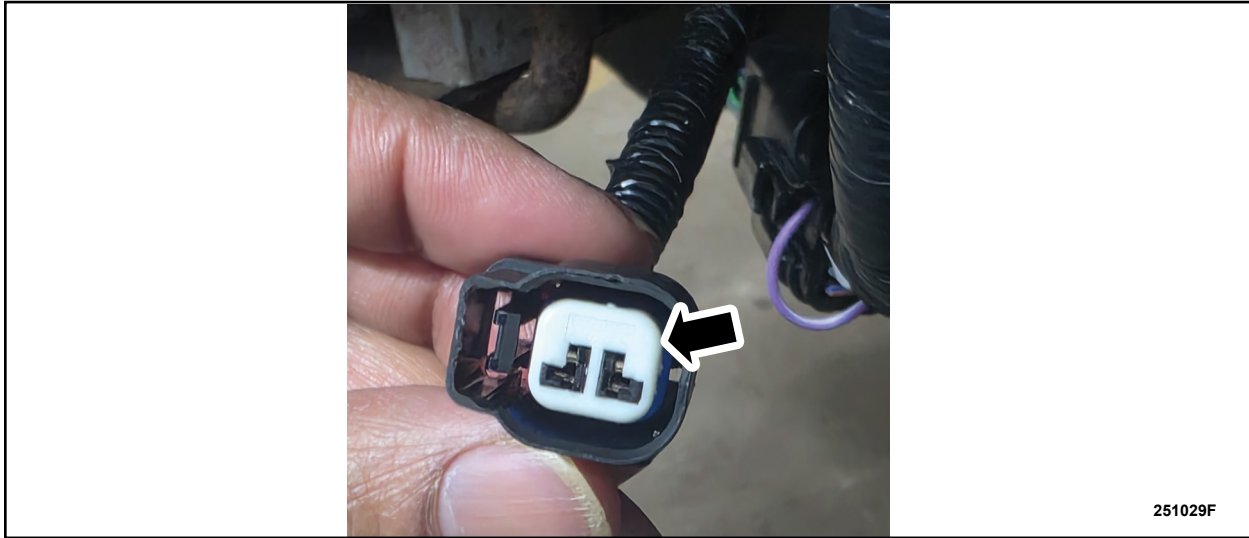

FIGURE 7
8. Reinstall the *new* white terminal protector into the *new* connector hardshell. See Figure 7.